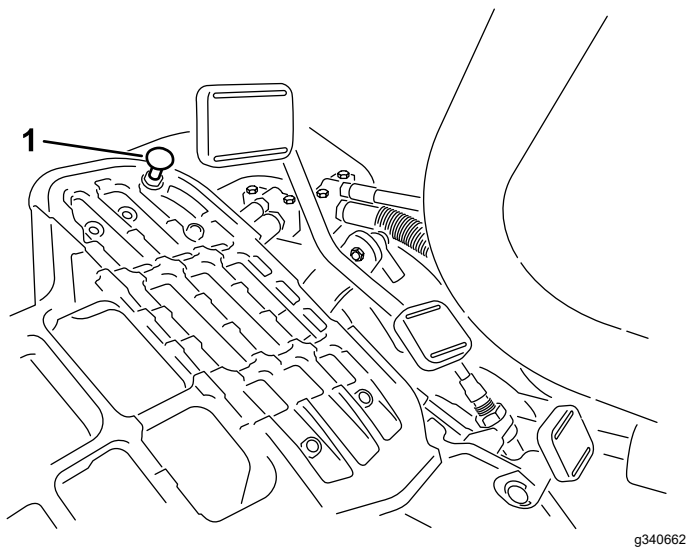

Figure 46
To obtain the maximum-transport speed, put the functional control lever in the TRANSPORT position and press down on the traction pedal. If the pedal contacts the stop (Figure 46) before you feel tension on the cable, perform the following adjustment procedure:
1. Put the functional-control lever in the TRANSPORT position and loosen the locknut securing the pedal stop to the floor plate (Figure 46).